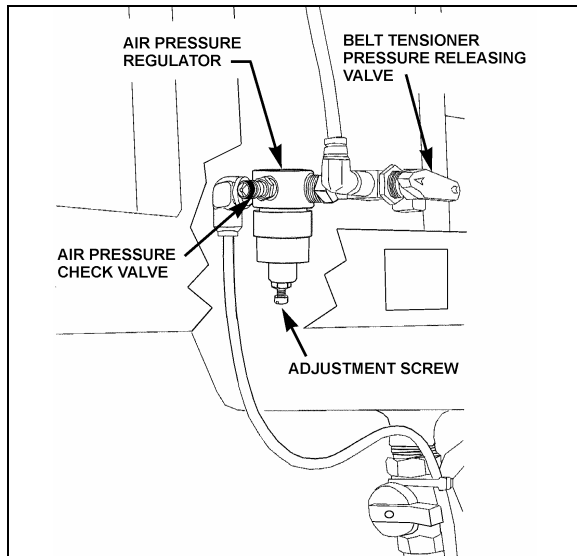

FIGURE 18: AIR PRESSURE REGULATOR
1. Open engine compartment rear doors and locate the belt tensioner pressure releasing valve (Fig. 18), mounted above the engine R.H. side door next to the air pressure regulator, then turn handle clockwise in
3. Reset belt tensioner pressure releasing valve (Fig. 18) to 50 psi (345 kPa) to apply tension on the new belts as explained in Section 12.